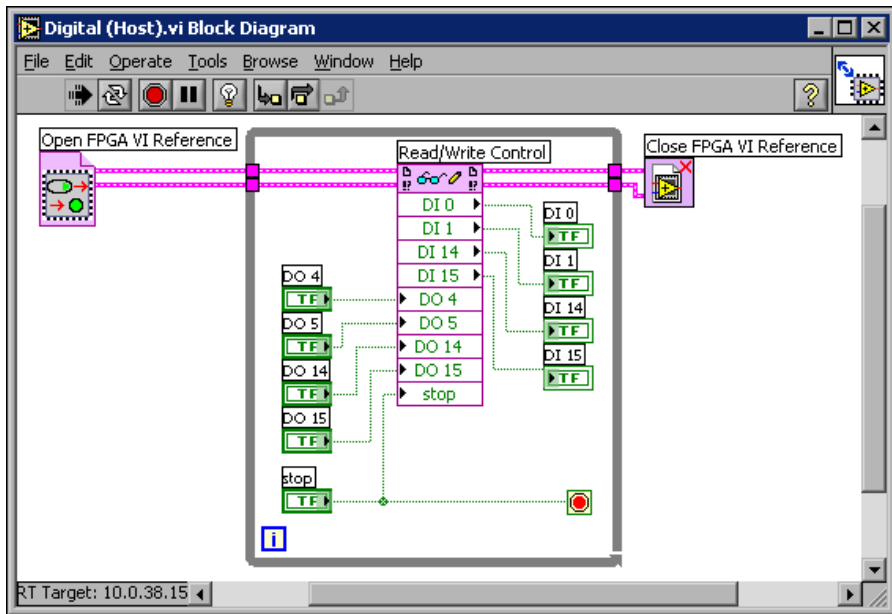

Figure 8. Block Diagram of the Host VI
5. Select **Window»Show Block Diagram** from the Digital (Host) VI to view the block diagram. The block diagram appears as shown in Figure 8.